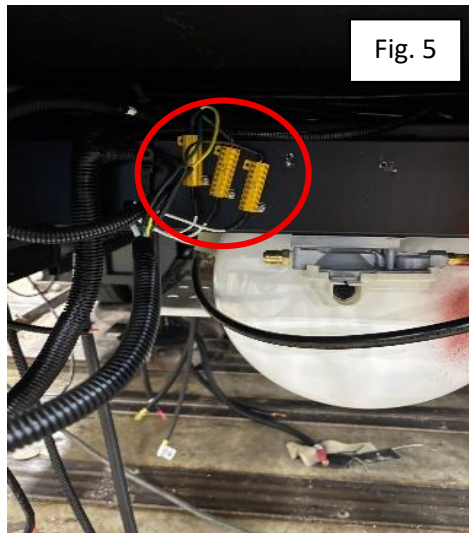

Fig. 5
8. Mount the resistors to the frame rail. (Figure 5)